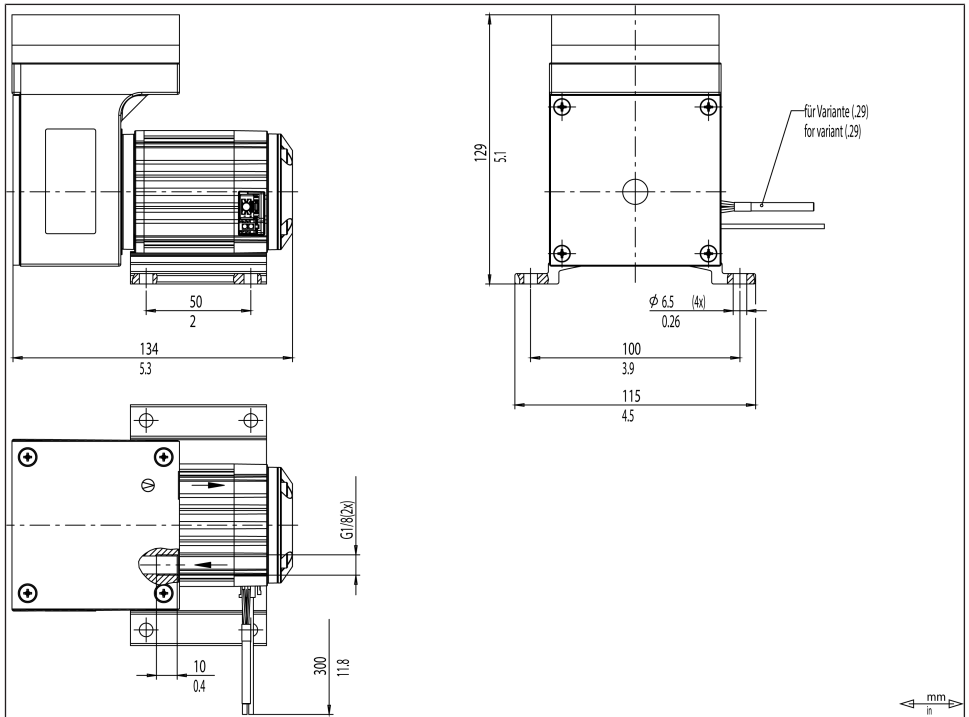

Fig. 4: Mounting dimensions N938\_DC-B
-N938ANDC-B	See Fig. 4, Chapter 6.1 Installing the pump [▶ 23]